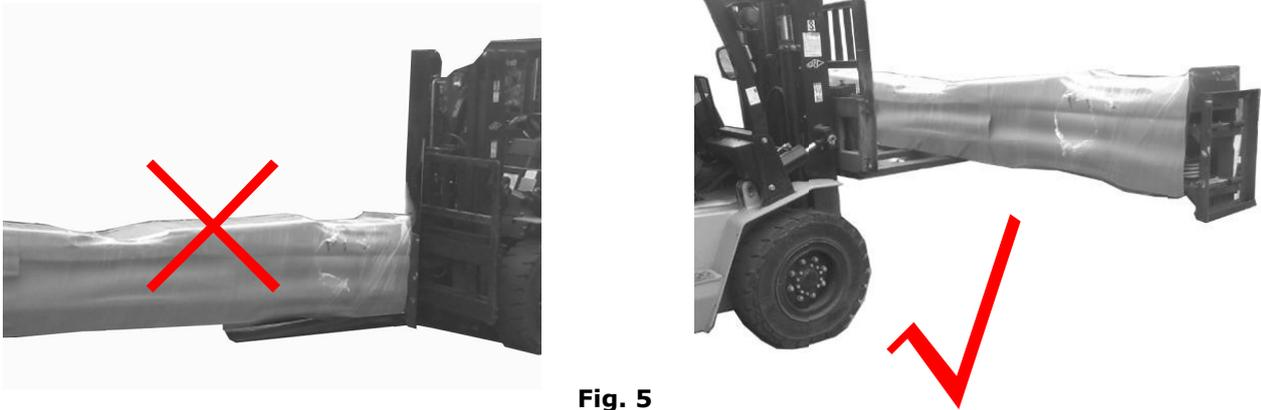

Fig. 5
B. Check the parts before assembly 1.The equipment should be unload and transfer by forklift. (See Fig.5)